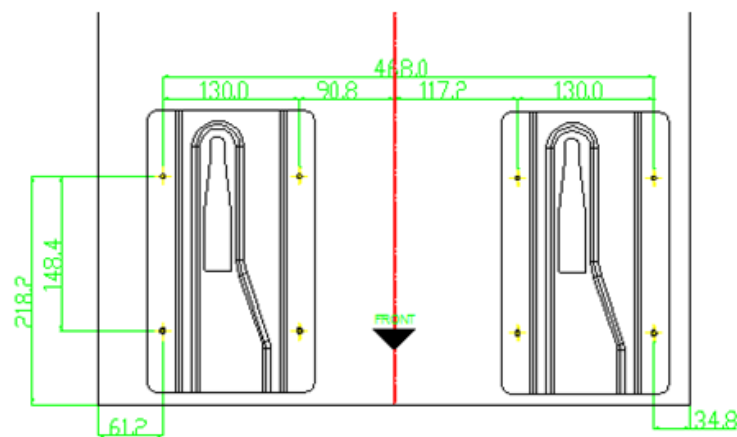

Fig. 1
- c) Drill the frame screw hole first, as shown in Fig. 1